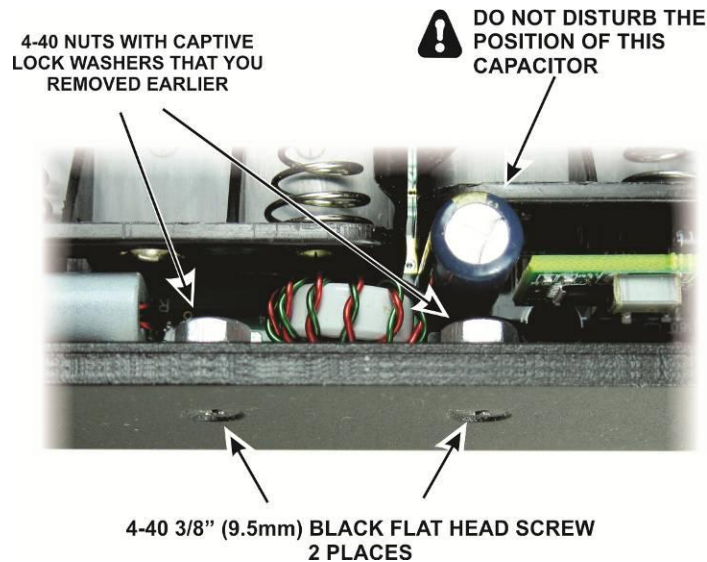

Figure 10. Installing the Transistor Mounting Screws.
□ Install the screws to attach the power transistors to the case as shown in Figure 10, using the two captive lock washer nuts you removed earlier.